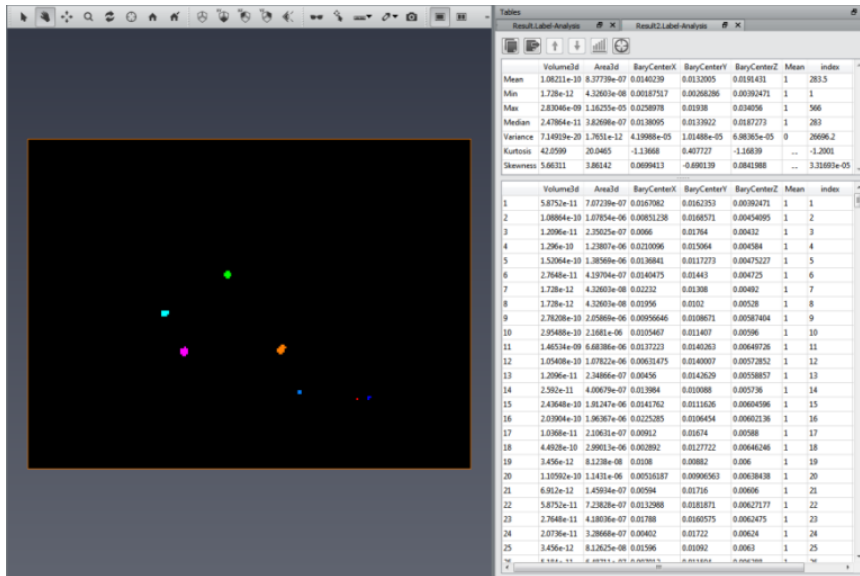

Figure 15.7: Chocolate Bar Bubble Statistics
- Play the recipe on the *chocolate-bar.am*. The recipe will compute statistics as shown in Figure 15.7.